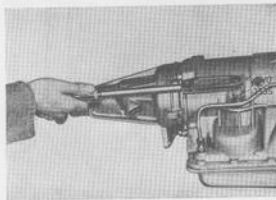

Fig. 4-84. Adjusting rear brake band
2. Use the special socket 2535 and connect the torque wrench to the adjusting screw, see Fig. 4-84. Tighten the screw to 14 Nm (10 lbf). Back off the adjusting screw one turn.